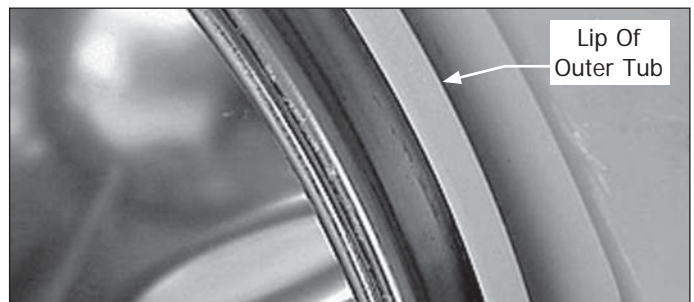

Figure 4-38.
4. A groove in the rear of the bellows is placed over the lip of the outer tub and held in place by a spring loop. (See Figure 4-38 & 4-39)